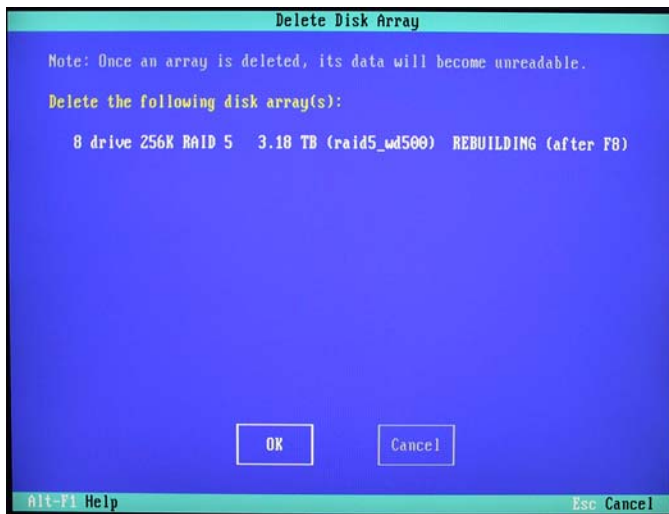

Figure 6-7
- 7) Using the <Tab> key, select the **Delete Unit** option and then use the <Enter> key to confirm the deletion of the 8-drive array (Figure 6-7).